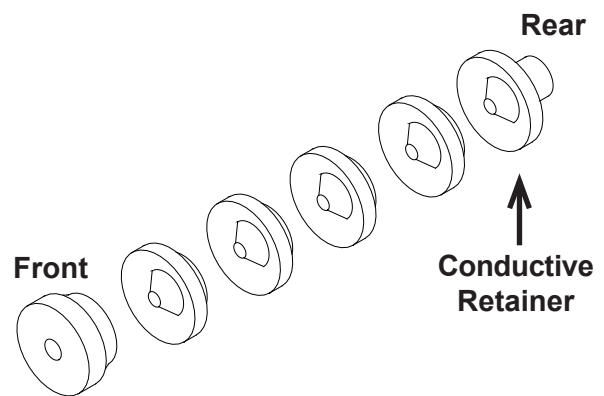

Figure 7: Chevron Seal Assembly
3. Unscrew needle/electrode from shaft and slide parts off of the shaft (see Figure 7).